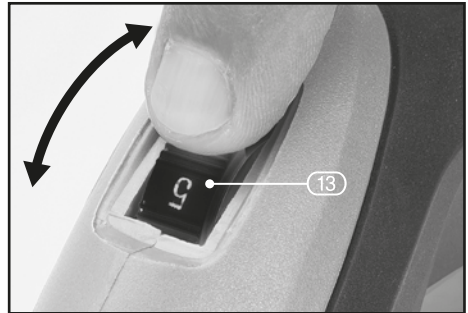

FIG.5
9.2 VARIABLE SPEED ADJUSTMENT – FIG.5